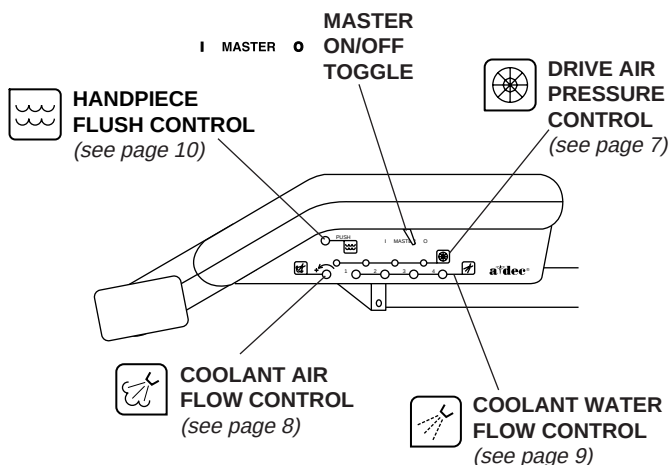

Figure 4. Handpiece Controls
The master on/off toggle (see Figure 4) turns air, water, and electricity on or off to the system.
The drive air pressure controls (see Figure 4 on page 4) are used to adjust the drive air pressure to each handpiece.
The coolant air flow control (see Figure 4 on page 4) is used to adjust the coolant air flow to all handpieces.
2. Locate the coolant air control (see Figure 4 on page 4).
The coolant water flow controls are used to adjust the flow of coolant water to each handpiece (see Figure 4 on page 4).
2. Locate the coolant water flow controls (see Figure 4 on page 4).